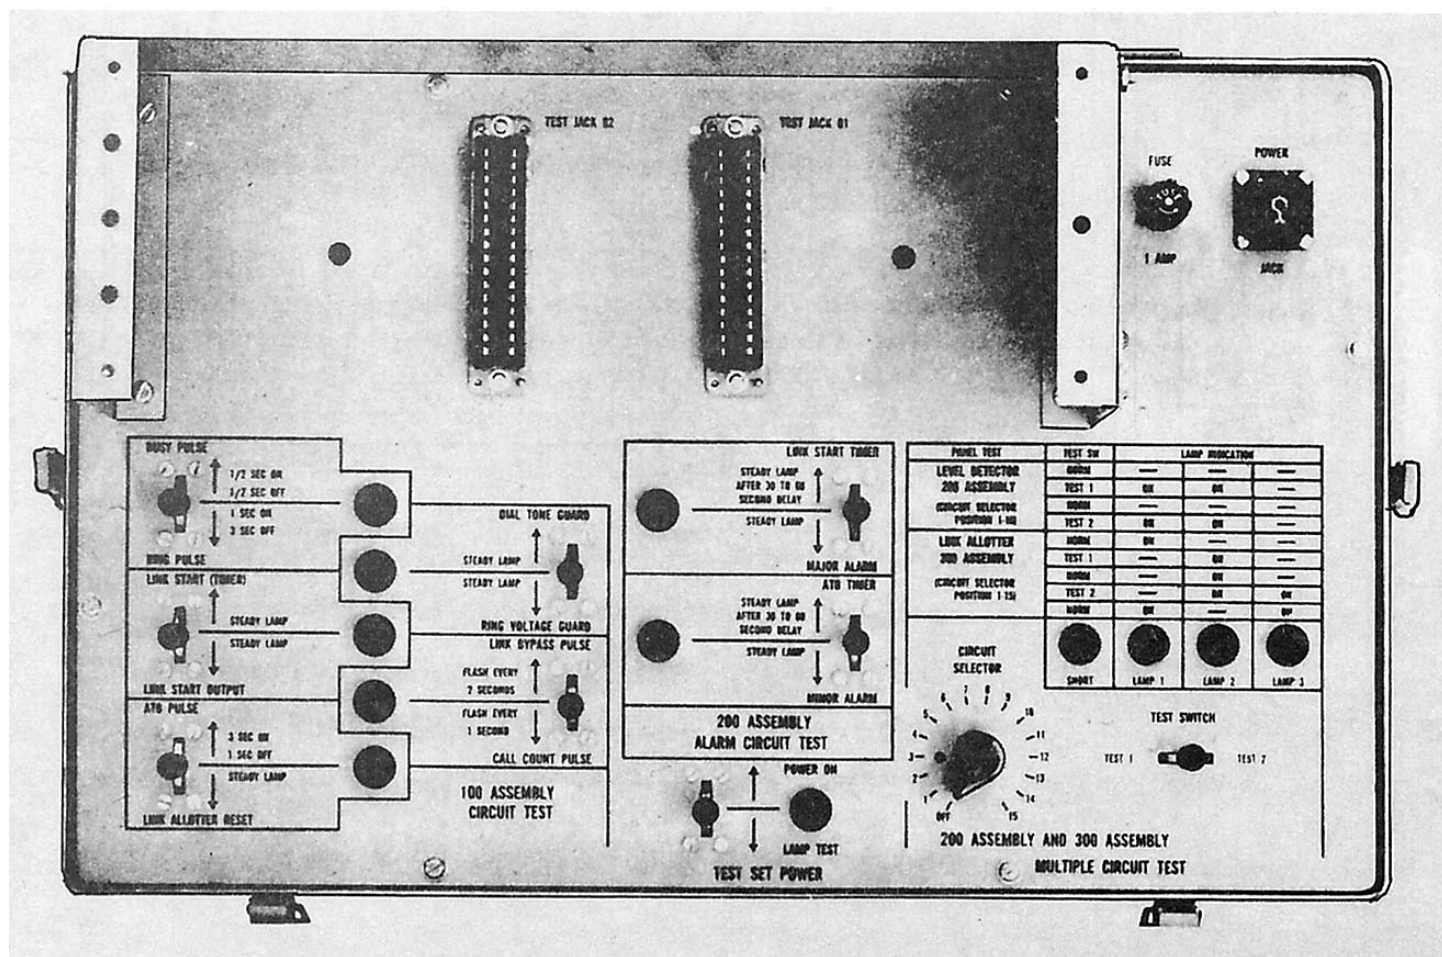

Figure 6-41.—Common panel test set.
**COMMON PANEL TEST SET.**— The common panel test set (fig. 6-41) is used to test the common control, link allotter, and level detector circuit modules of the MDM 50- and 100-line units out of the system. The purpose and function of the 50/100-line system and the 200/700-line system are the same. There are some physical characteristics that are different. The module to be tested is plugged into the jack receptacle located on the face of the test set. By
The description of controls and indicators listed in table 6-7 corresponds to the common panel test set in figure 6-41.